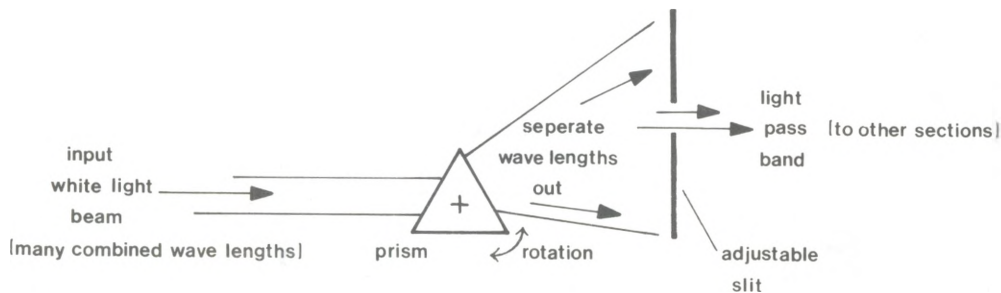

Fig.2
**An optical bandpass filter.** Ordinary colored optical filters can be used in the same manner as fixed electronic filters (high/low cut or bandpass filtering). The components shown in figure 2 might be found in a photospectrometer. In this example, a beam of white light (many different wavelengths) is refracted (spread into its component wavelengths) by a rotatable prism. The refracted rays pass through a narrow slit in an otherwise opaque material, which allows you to choose various frequency ranges at the output end. Known as a monochromator, this is an adjustable optical bandpass filter. Like the electronic audio bandpass filter, this one can be swept, held fixed, or have its pass bandwidth changed since you can pick and choose which frequencies to transmit by rotating the prism. These signals could be simple audio encoded frequencies, or they might be entire channels of information (several audio or control signals modulating a "carrier" frequency). This gives you the equivalent of a channel selector/mixer in one device. Several could be cascaded for more complex filtering or routing. Now, start adding lenses, mirrors, modulators, inverters, amplifiers, splitters, multiplexers, delay lines, mixers, and you get an idea of how similar optical synthesis processing is to conventional electronic synthesis processing. Remember too that these are mostly analog methods - you can have digital optical control/processing as well. The world is wide, and not all electronic...so see the light! \_\_\_\_\_